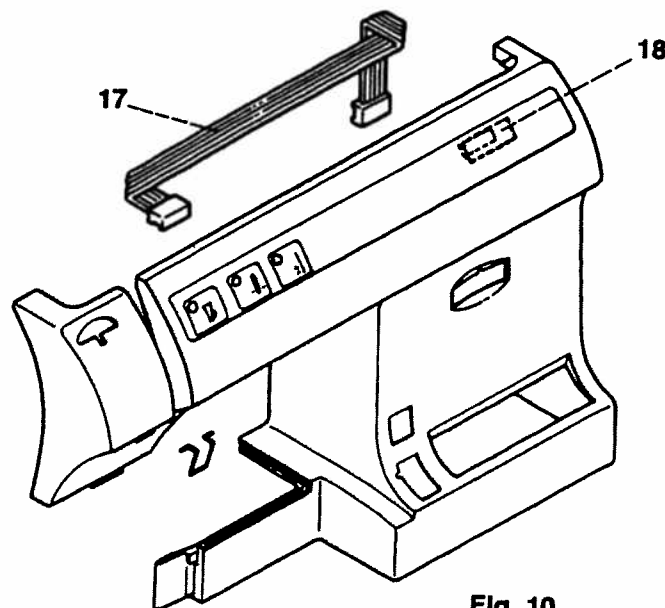

Fig. 10
- Lift the front housing shell and pull off connection cable 17 of the circuit board and remove cable 17 from guide hook 18 (fig. 10).